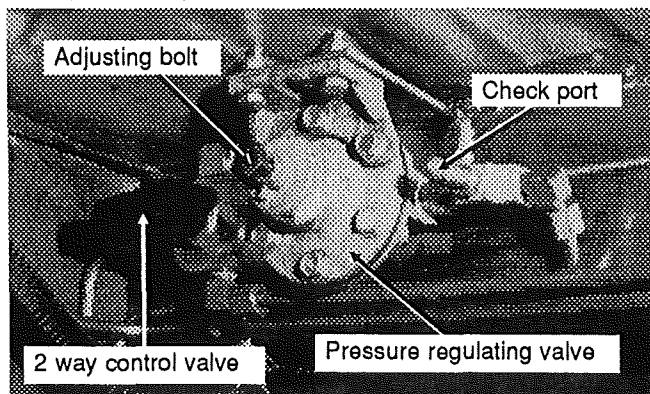

FIG. 24
With the pneumatic system under normal pressure, connect a pressure gauge in the pressure regulating valve check port located in the upper left corner of the engine compartment (see fig. 24). Reading must indicate 40 psi (275 kPa); if reading is different, set the regulating valve air pressure as follows:
1. Shut off the air supply to the tensioner cylinder by turning the two-way control valve handle (see fig. 24). This will compress the cylinder spring and release the tension on the compressor and transfer belts.
1. Shut off the air supply to the tensioner cylinder by turning the two-way control valve handle (see fig.24). This will compress the cylinder spring and release the tension on the compressor and fan transfer belts.